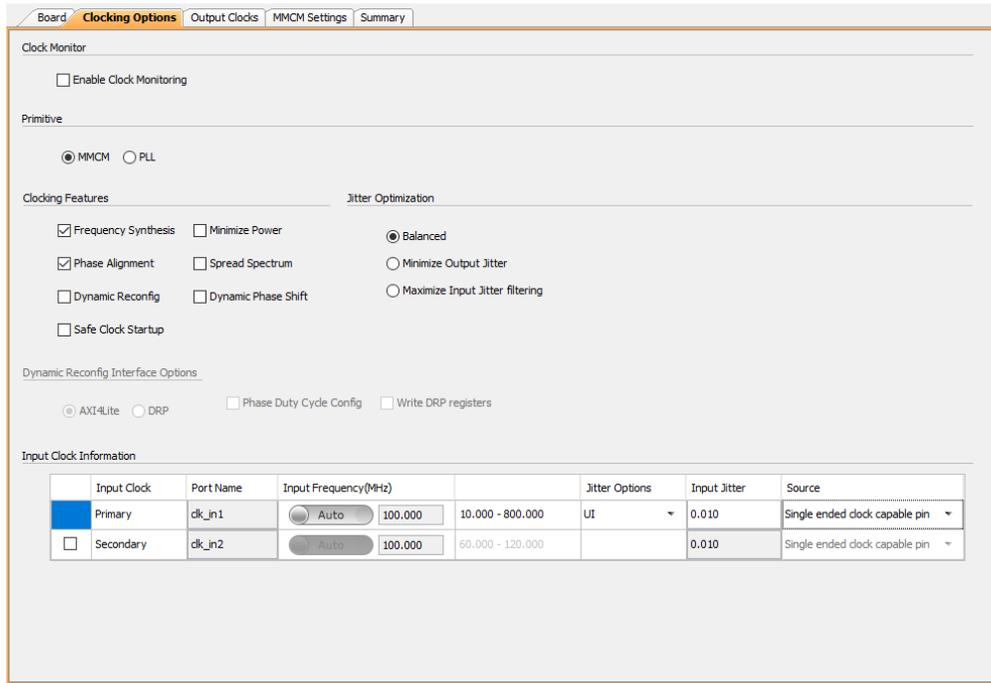

Figure 7: The Clocking Wizard settings dialog box.
9. In the Clocking Options tab, under *Input Clock Information*, set the primary clock to **Single-ended clock capable pin**, as shown in Figure 7.